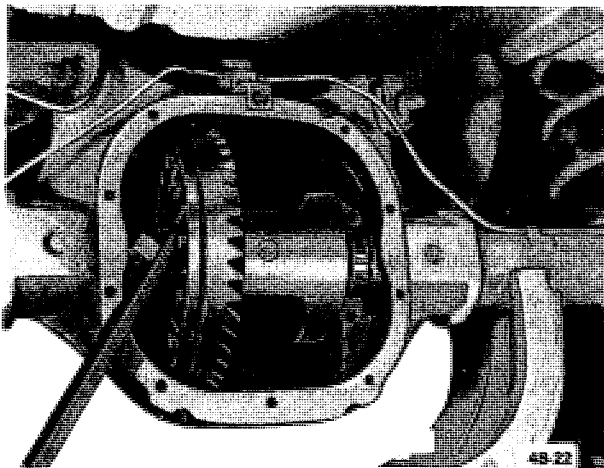

Figure 4B-22 Removing Differential Case Assembly
9. Differential case assembly can now be removed by prying against ring gear bolt, using a suitable pry bar. See Figure 4B-22. Remove case assembly and place right and left bearing outer races and shims in sets with marked bearing caps so that they can be reinstalled in their original positions.